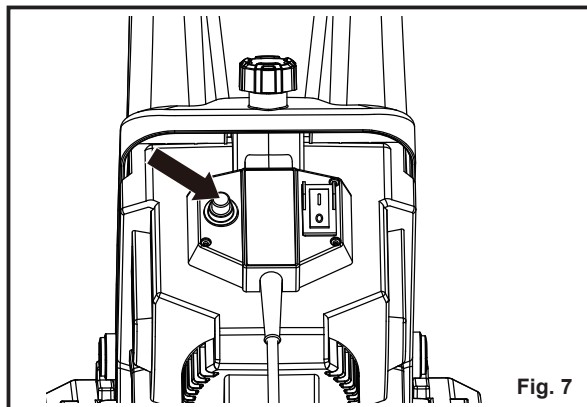

Fig. 7
- Plug the chipper back in. Press the motor reset button. Then turn ON the chipper (Fig. 7).